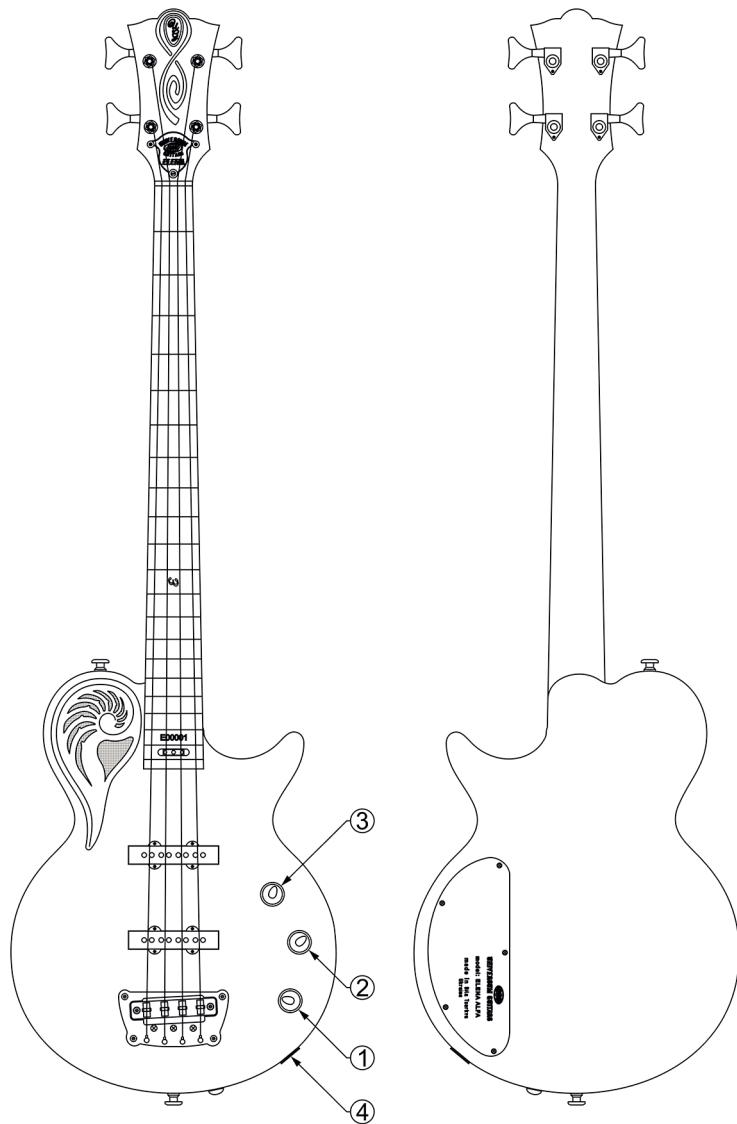

Fig. 23
- Output connector – electromagnetic (Fig.23 Pos.4).
- 1) Tone adjusting potentiometer handle (Fig.23 Pos.1).
- 2) Electromagnetic pickup balance adjusting potentiometer handle (Fig.23 Pos.2).
- 3) Volume adjusting potentiometer handle (Fig.23 Pos.3).